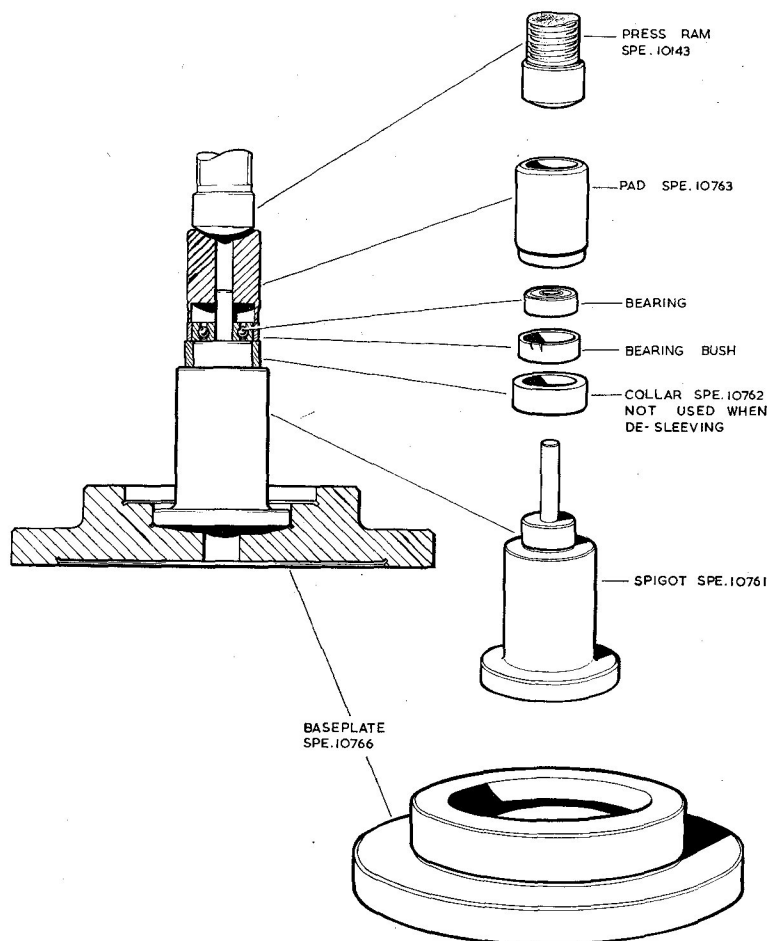

Fig. 7. Bearing sleeve removal and assembly
(2) Assemble the selected bearing into the steel sleeve (168), using the special tools illustrated in fig. 7.
(3) Fit the bearing and sleeve assembly into the commutator-end motor casing (158). Ensure that the ears on the sleeve (168) locate in the motor casing slots, to prevent rotation of the assembly in its housing.